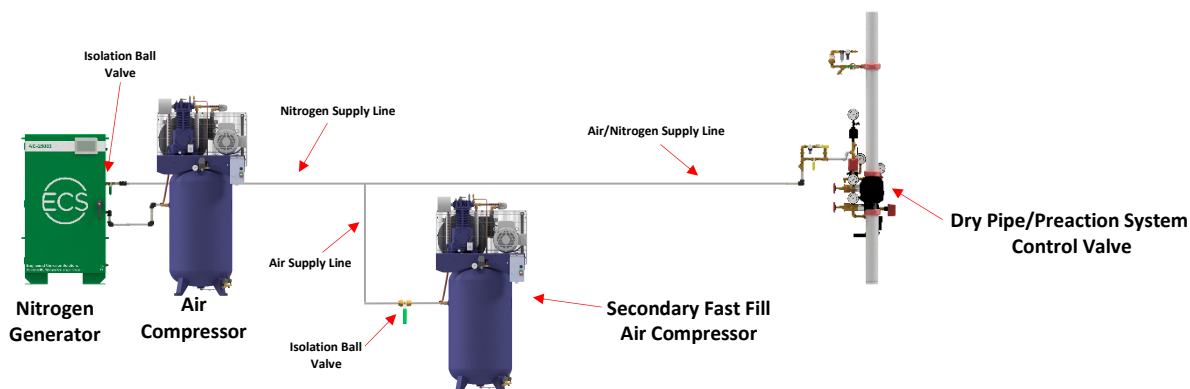

Figure 3b
Step 6b: Dry Pipe/Preaction Systems Plumb the Nitrogen/Air Supply Line: With Separate Air Compressor (Figure 3b)